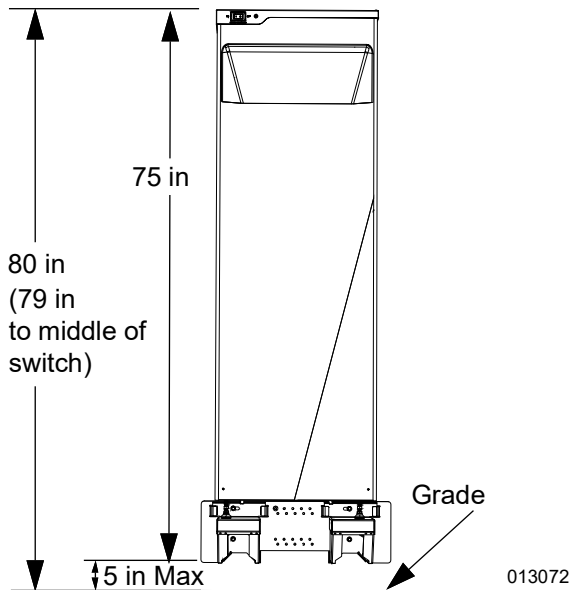

Figure 4-2. Foot Bracket Install Height
1. See **Figure 4-2**. Install the foot bracket bottom edge along the bottom of the wall no higher than 5 in (12.7 cm) above grade to keep the middle of the Battery Disconnect Switch at a maximum height of 79 in (200.66 cm) above grade.